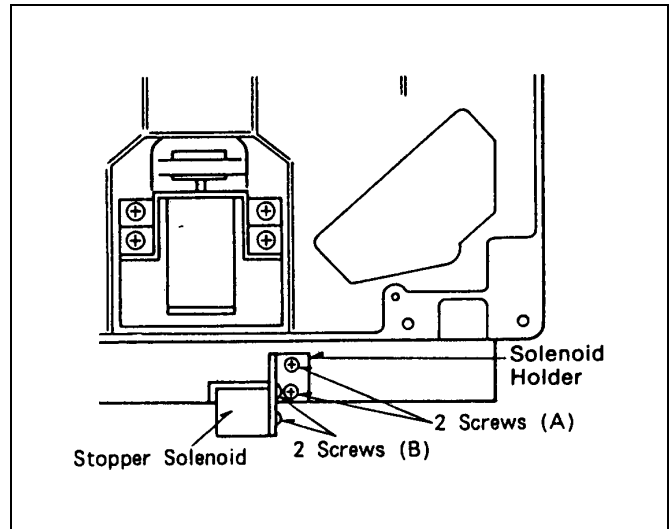

Figure 7-22-1 Stopper Solenoid Removal
3. Unscrew 2 screws (A) and remove Solenoid Holder as shown in figure 7-22-1.
5. Unscrew 2 screws (B) and remove Stopper Solenoid as shown in figure 7-22-1.